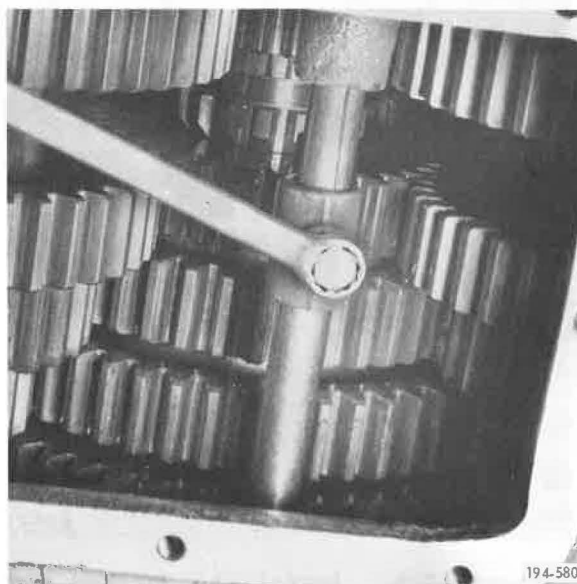

Figure 396. Installing Setscrews
12. (Rearward Controls Only) Install second/third speed shifter setscrew, and tighten to 35 to 45 lb. ft. torque. Refer to Torque and Tolerance Table, Item 10. See Figure 396.